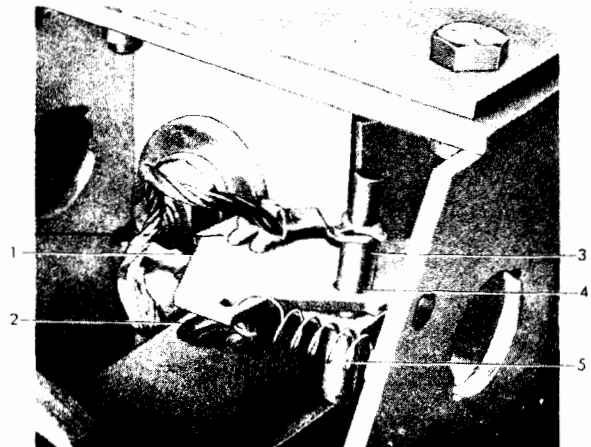
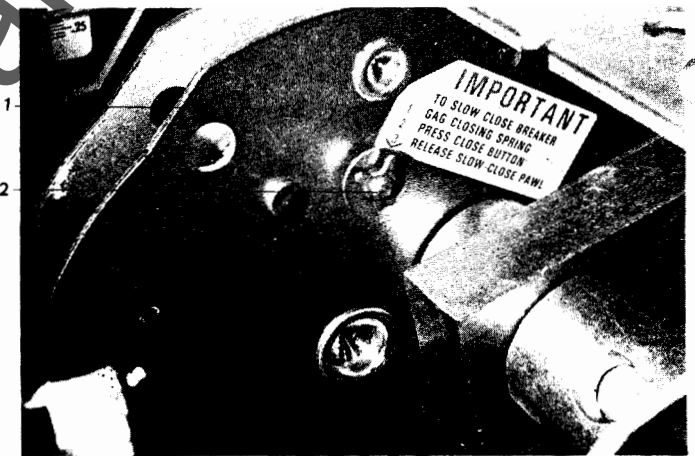

Fig. 10 Closing Spring Gag Interlock
Fig. 11 Slow Close Pin On Flywheel
The closing spring gag interlock is provided on the breaker to prevent a breaker that has a gagged closing spring from entering the metalclad unit. This is accomplished by projecting a lever, (1) Fig. 10, out of the left side of the mechanism when the closing spring is gagged.
- (2) Insert the close spring blocking pin, (3) Fig. 10, by carefully removing it from its storage hole, rotating the interlock lever and inserting it in the blocking hole.
- (3) CAUTION: If the manual close button is not pressed prior to performing step 4, the breaker will be damaged. PRESS THE MANUAL CLOSE BUTTON TO PARTIALLY DISCHARGE THE CLOSING SPRING AGAINST THE BLOCKING PIN.
- (4) Pull the slow close pin on the flywheel, (2) Fig. 11, and resume ratchet wrench operation of the manual wind shaft. After several rotations at no apparent load, the winding mechanism will engage the slow close pawl and begin the closing operation of the mechanism.